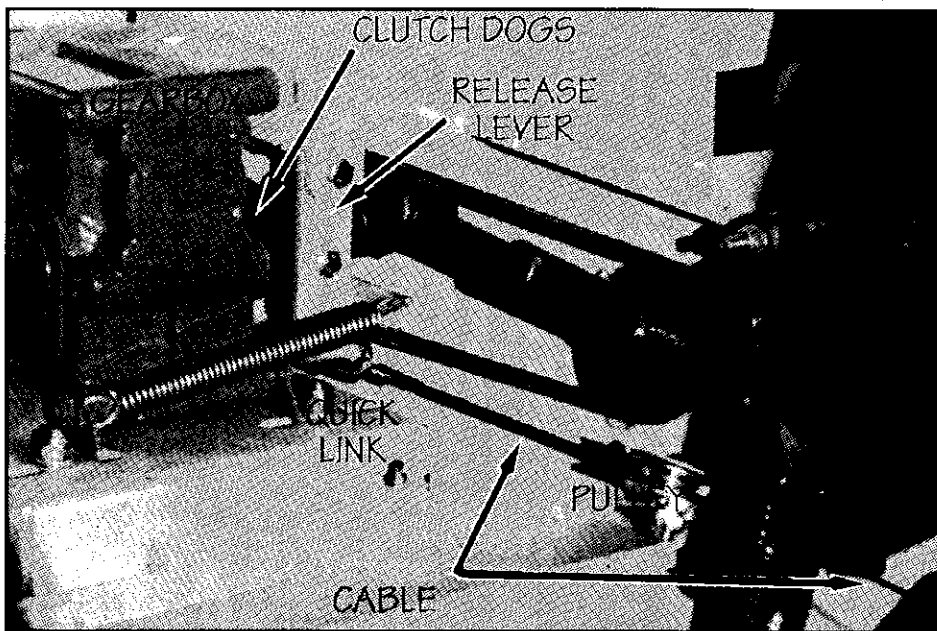

FIG. 25- SAFETY BAR CABLE COMPONENTS (FEED ROLL GUARD REMOVED)
- STEP 2: Take the time to visually follow the route of the cable from the threaded yoke on the lower pivot end of the safety bar, through the pulley mounted on the housing, and ending at the release lever with a quick link. (Refer to Figure 25.)